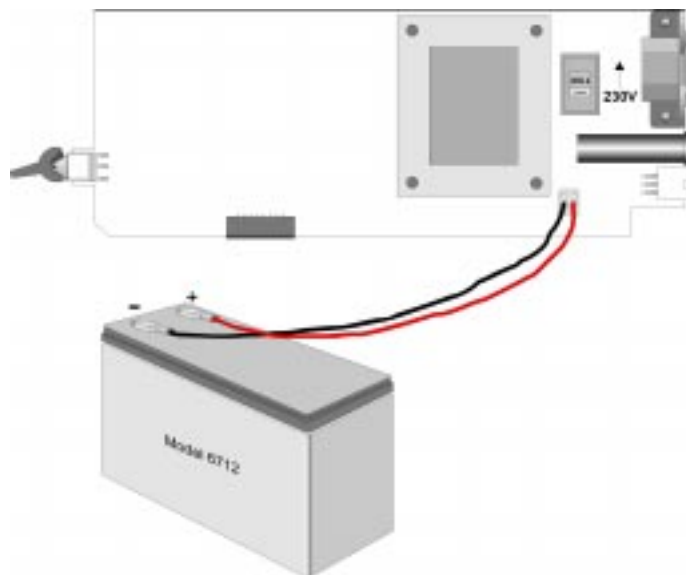

Figure 3-13 Battery Connections
4. Disconnect the backup battery. (See Figure 3-13.)
7. Reconnect the back-up battery. (See Figure 3-13.)